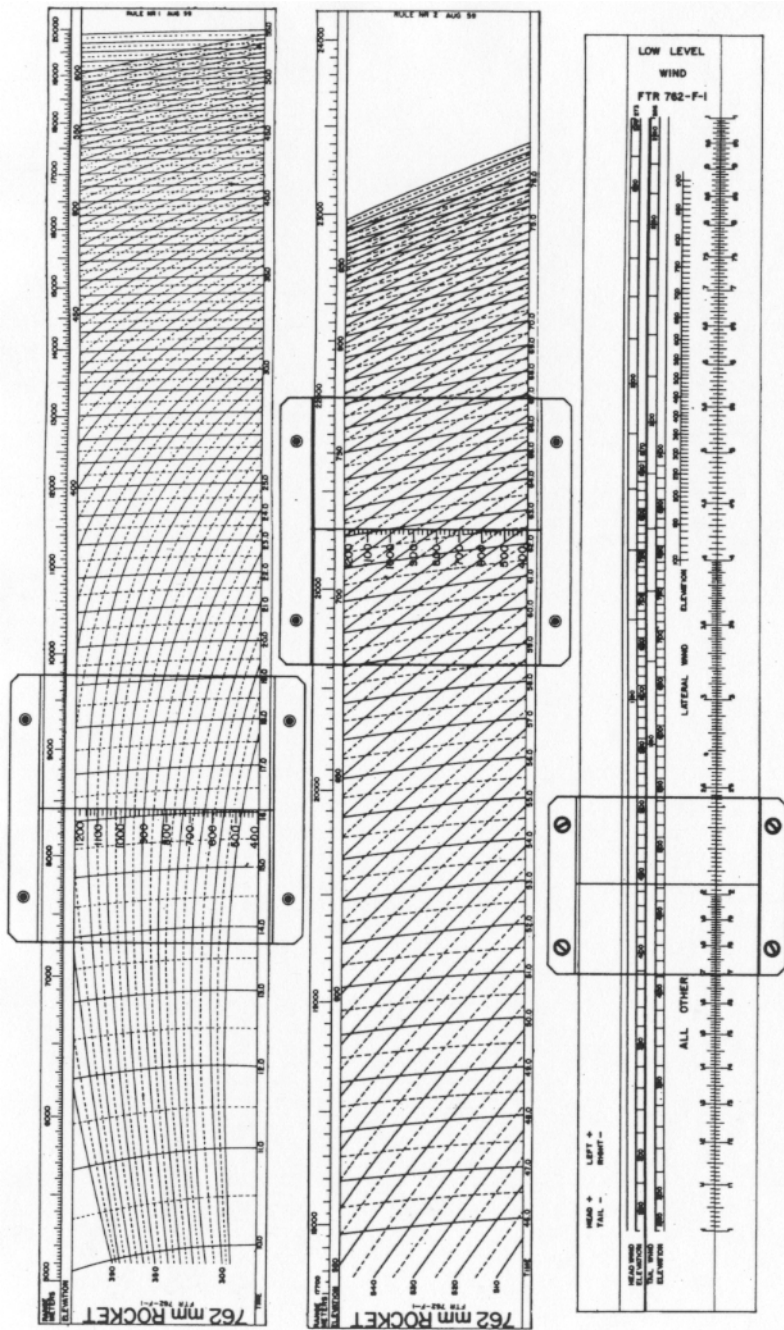

Figure 29. (Upper) graphical firing table, FTR 762-F-1 showing rules number 1 and 2. (Lower) graphical low-level wind table, FTR 762-F-1.
To obtain the trial quadrant and trial time of flight, new graphical firing tables are being developed which will permit reading both the quadrant elevation (QE) and time of flight (TF) to the required accuracy of 0.1 mil and 0.01 second respectively. Figure 29 shows two graphical firing tables. Rule number 1 (upper) is graduated in range from 5,000 to 20,000 meters, and rule number 2 is graduated in range from 17,700 to 24,000 meters. The cursor of the GFT permits reading the particular height of burst relative to the launcher required. The trial QE and TF has now been obtained, and no pencil computation has been necessary.